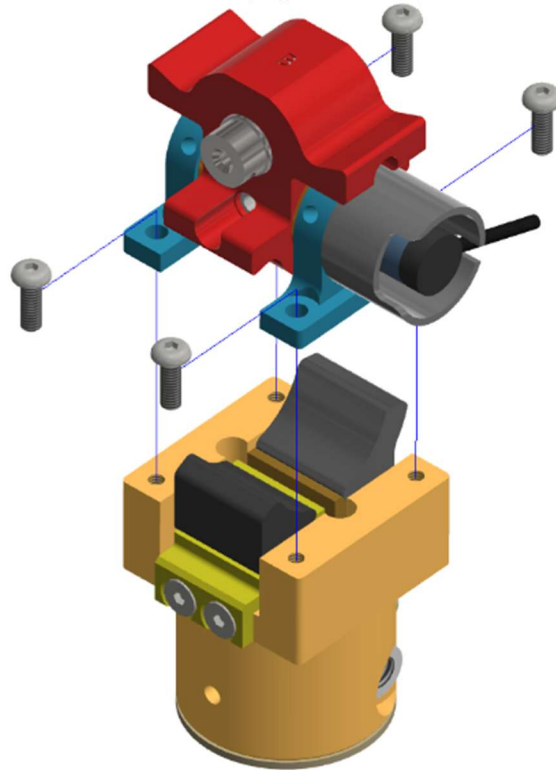

Figure 10-42. Assemble Ankle Bushing Plates (474-5826) and the Ankle Center Block Assembly (474-5824-A) to the Ankle Adaptor (474-5820-1,2)
10.3.7 Assemble the two Ankle Bushing Plates (474-5826) and the Ankle Center Block Assembly (474-5824-A) to the Upper Ankle Adaptor (474-5820-1,2) using four M4 X 0.7 X 12 LG. BHCS (Figure 10-42).